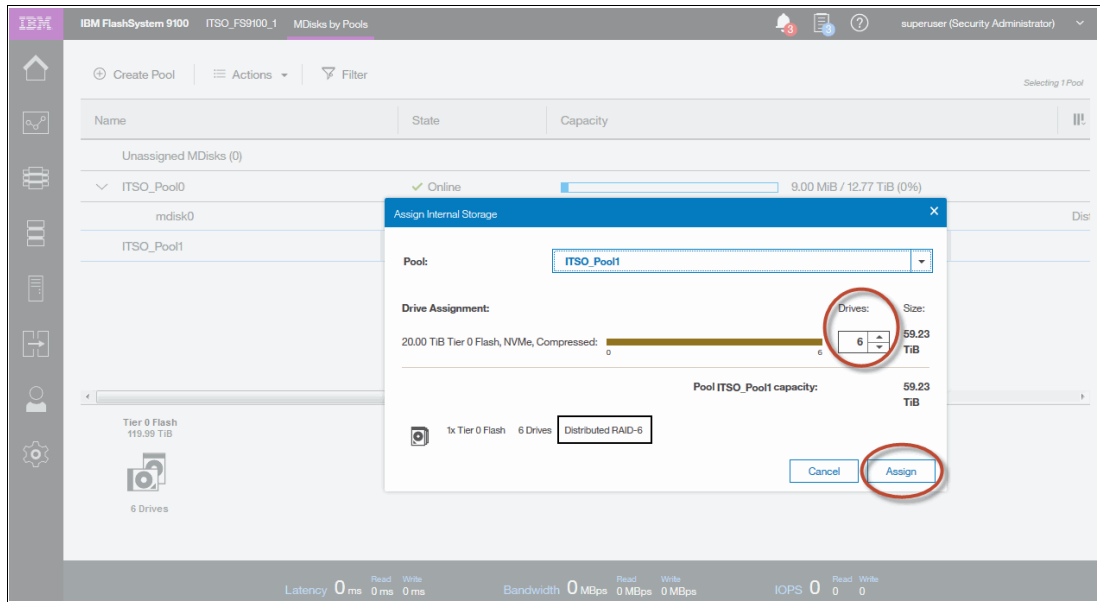

Figure 5-26 Number of drives is 6
6. Enter a quantity of 6 drives for DRAID6 to add to the storage pool, as shown in Figure 5-26.